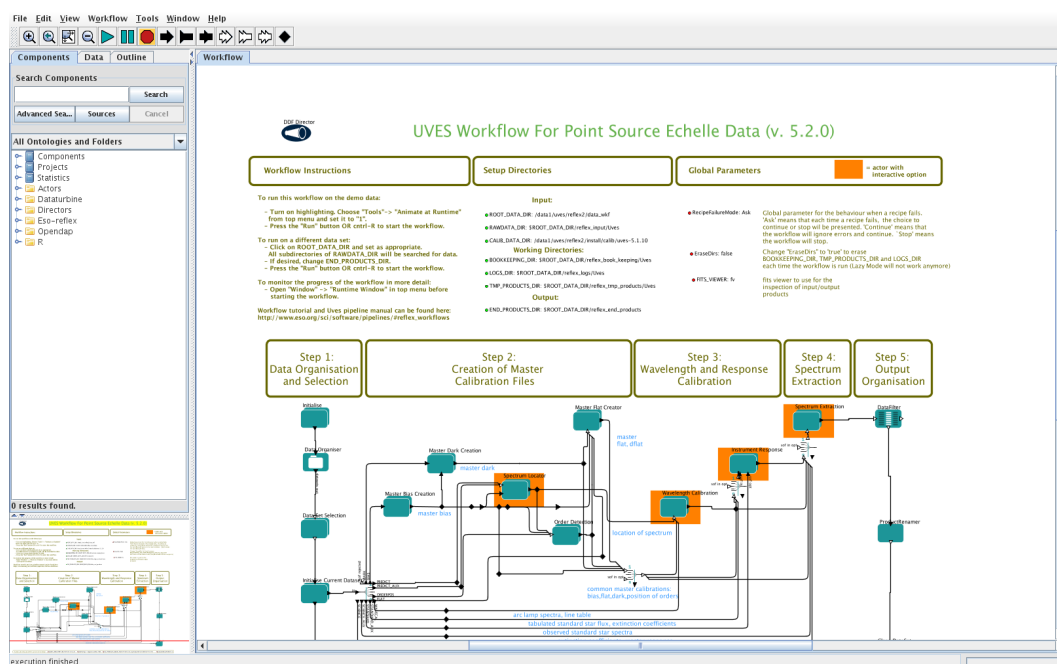

Figure 4.2: UVES workflow general layout.
2. Now open the UVES workflow by clicking on File -> Open File, selecting first `uves-5.2.0` and then the file `Uves.xml` in the file browser. You will be presented with the workflow canvas shown in Figure 4.2. Note that the workflow will appear as a canvas in a new window.